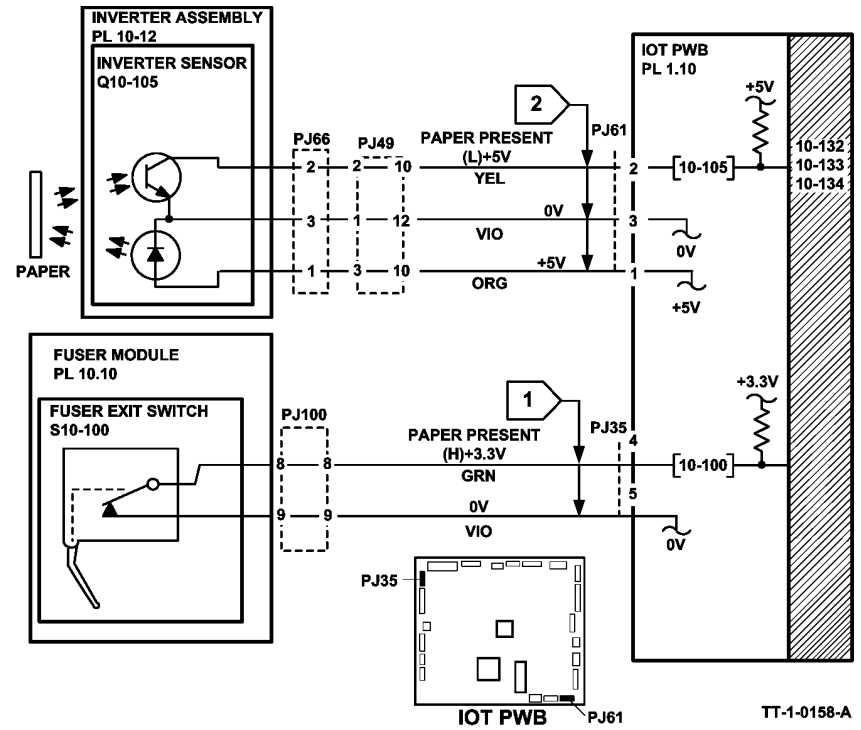

Figure 3 Circuit diagram
- Check the upper and lower gravity fingers in the inverter, **Figure 3**, **GP 7**.
- **Figure 3**.